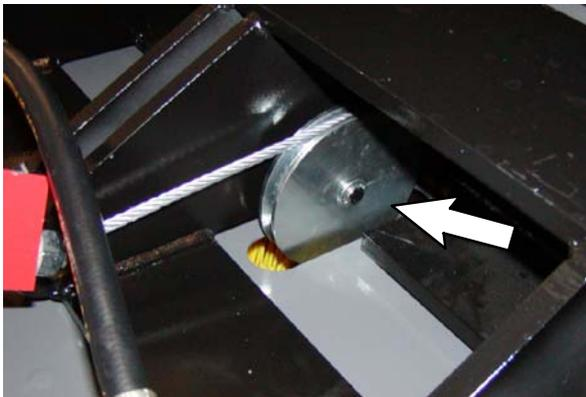
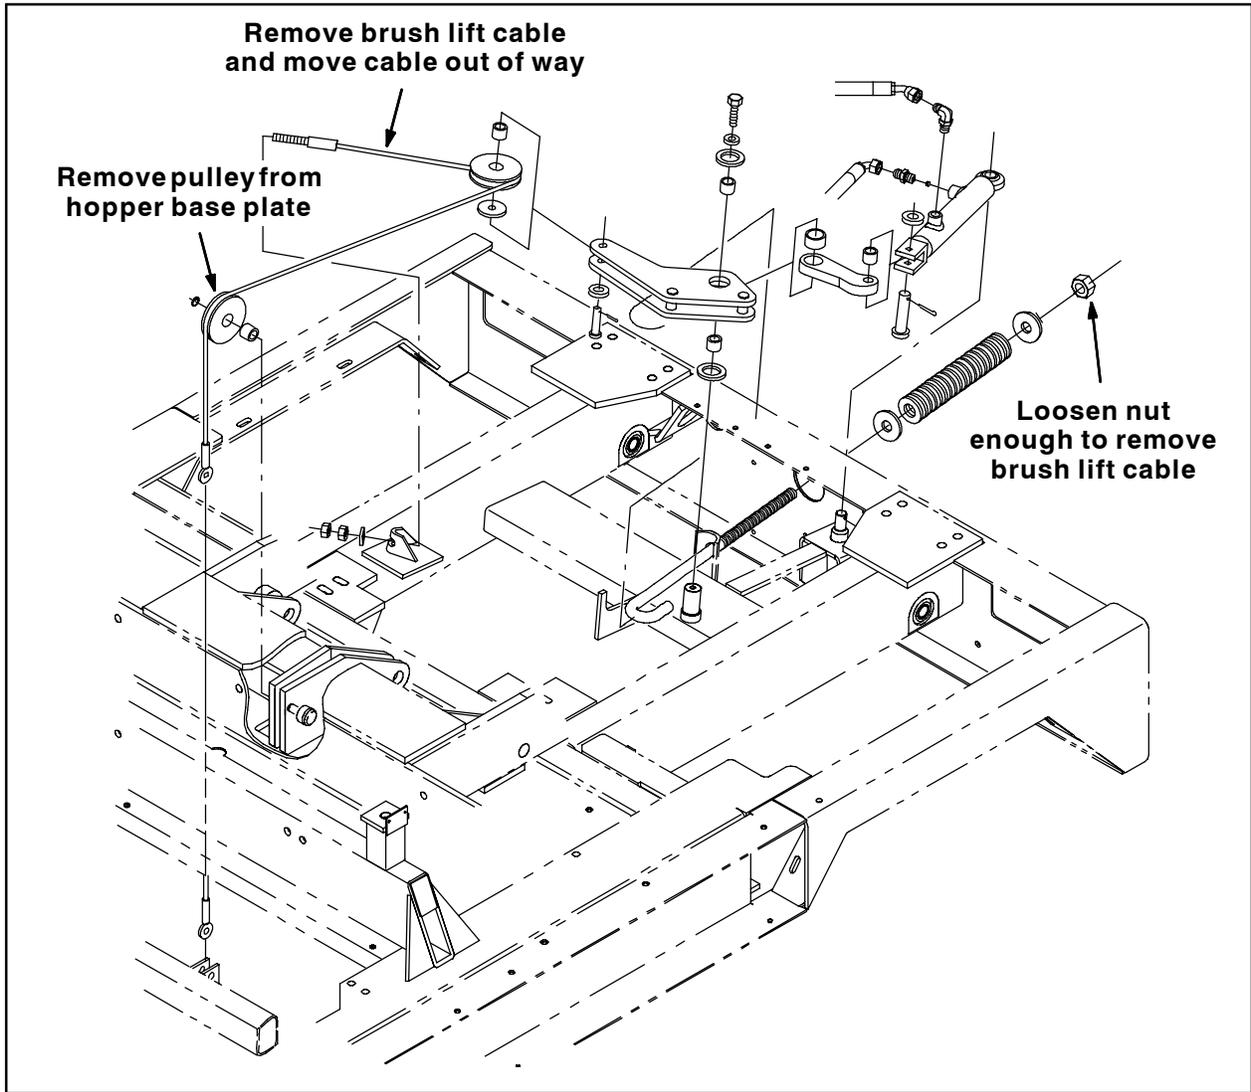

FIG. 3
FIG. 11
1. Loosen the nut on the main brush lift spring enough to remove the brush lift cable from the rear frame mount. The lift spring nut is located at the rear of the machine. Refer to Fig. 2, Fig. 3, and Fig. 11.
2. Remove the pulley from the pin. Set the pulley aside. Discard the rest of the hardware. Refer to Fig. 3 and Fig. 11.
3. Move the brush lift cable out of the area of the brush lift pulley pivot pin and shield the cable as necessary to prevent it from being damaged. Refer to Fig. 3 and Fig. 11.
15. Reinstall the brush lift cable and tighten the nut on the main brush lift spring. Refer to Fig. 2 and Fig. 11.